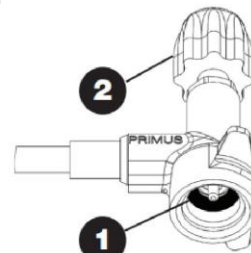

Fig 2
4. MONTAŻ URZĄDZENIA (rys. 2)
S. UŻYWANIE ~STROJE (rys. 2)